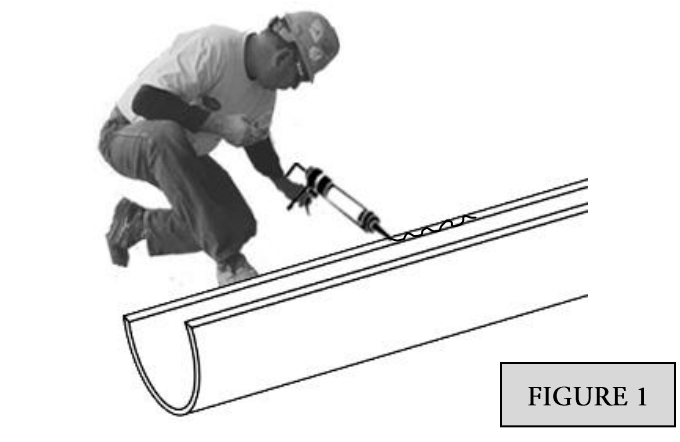

FIGURE 1
3. Apply – to the column halves – a high-quality, exterior, waterproof construction adhesive suitable for fiberglass columns. Surfaces must be clean and dry prior to applying adhesive. Follow adhesive manufacturer's instructions concerning use within temperature ranges and working time for best results. [FIGURE 1]